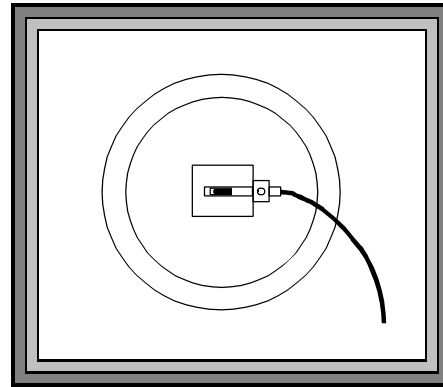

Figure 47 RTD WIRES @ 3:00
- Turn the RTD fixture so that the wires are entering from the right or the 3:00 position, when facing the unit from the front, (see **Figure 47**).